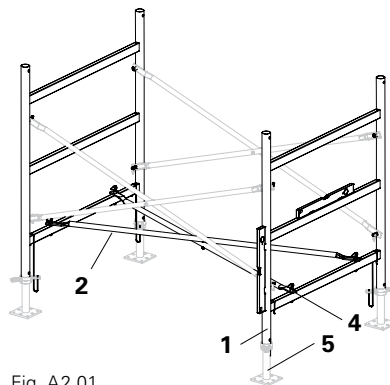

Fig. A2.01
1. Insert Flip Lock (4) through the hole in the frame strut and tighten from below with using the collar nut. Align the securing plate (4.1) parallel to the frame strut and in the tilting direction. Flip Lock thereby secured even if the tower is laid down. (Fig. A2.01 + A2.01a)
2. Mount one PD 5 Diagonal Brace (2) in the base: